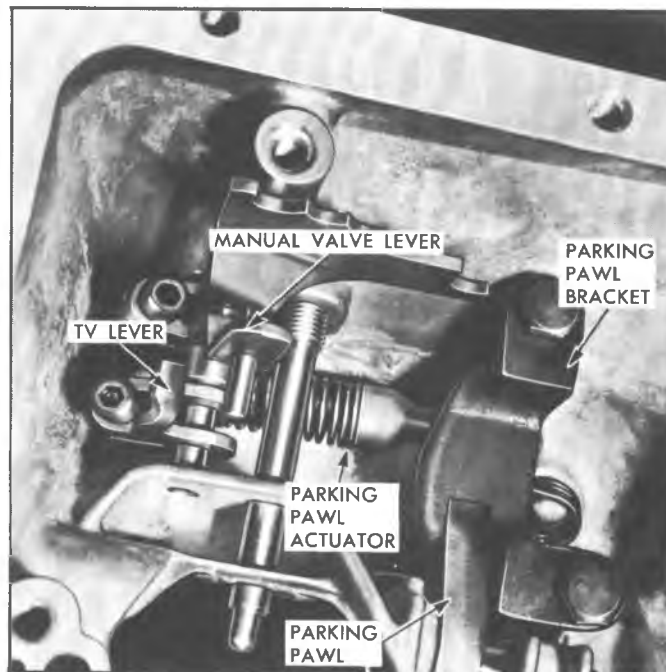

Fig. 12PG--Inner Control Levers, Parking Pawl and Bracket
24. If necessary, the TV, shift and parking actuator assembly levers, and the parking pawl and bracket (fig. 12PG) may be removed.